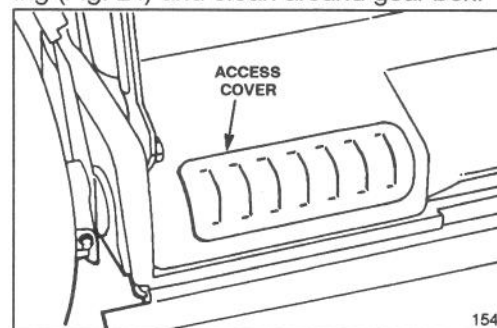

Figure 24
6. Remove access cover on mower housing (Fig. 24) and clean around gear box.